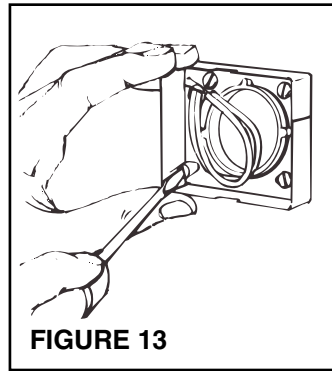

FIGURE 13
3. **Refer to Figure 13.** For some dry wall or panel construction, the plaster frame will extend beyond the finished wall. In this case, remove plaster frame from mounting bracket by removing mounting screws.